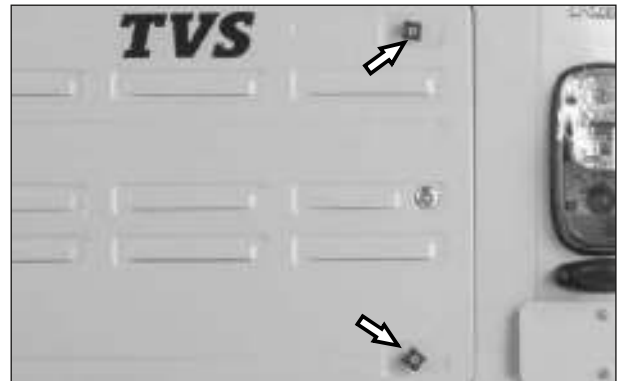

Fig. 5.80
- Loosen and remove the knobs top and bottom from tail door. Also, unlock the tail door using control key. Open the tail door. (Fig. 5.80)